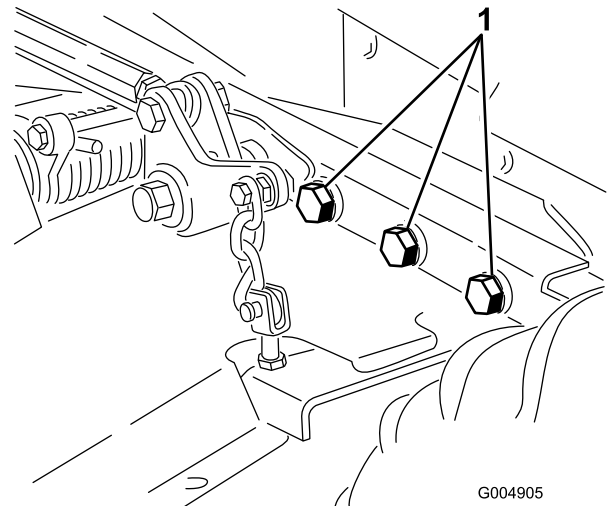

Figure 62
4. Check all fasteners for looseness and tighten them as necessary. Torque the 6 bolts securing the mower deck frame to the traction unit (Figure 62) to 359 N·m (265 ft-lb).